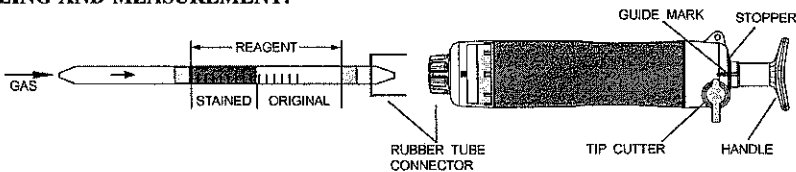

Fig.1
- ② Insert the detector tube into aspirating pump securely as shown in Fig.1. (Arrow mark shall point to the pump.)
- ③ Align the guide marks on the shaft and stopper of the aspirating pump.
- ④ Pull the handle at 1/2 strokes (to 50mL line) until it locks and wait for 0.5 minutes or until the completion of sampling is confirmed with the flow indicator of the pump (See descriptions about the flow indicator in the instructions of the pump).
- ⑤ On completion of sampling, read the scale at the maximum point of the stained layer.